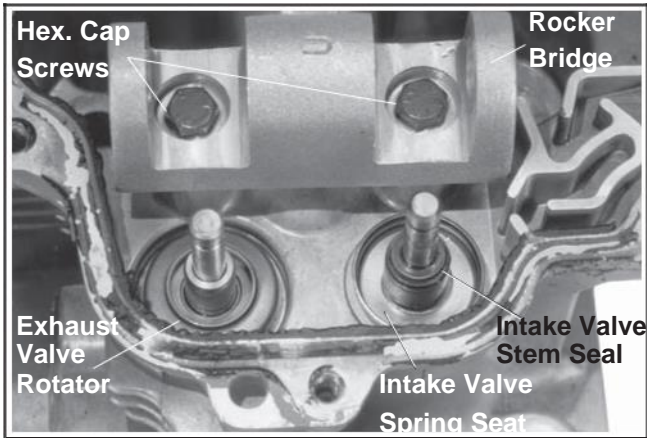

Figure 11-38. Installing Rocker Bridge and Valves.
1. **Rocker Bridge Heads Only**—Install the rocker bridge to the cylinder head. See Figure 11-38. Make sure the small (counterbored) hole is towards the exhaust port side of the cylinder head. Secure the rocker bridge with the two M6 hex. cap screws. Torque screws to **11.3 N·m (100 in. lb.)**.